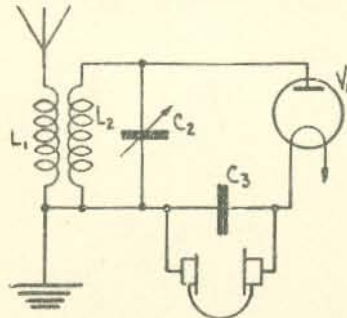
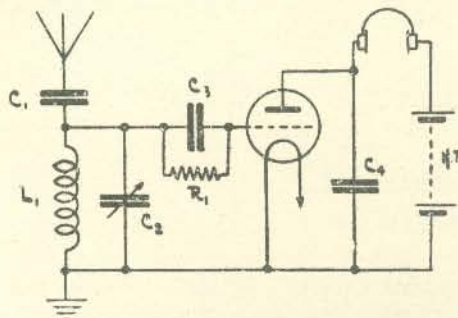

FIG. 31.—Elementary receiver for R/T or I.C.W.
FIG. 34.—Single triode receiver.
2. **Elementary Receiver for R/T and I.C.W.**—A very simple receiving circuit may be seen in fig. 31. The aerial circuit, consisting of the aerial's own inductance, capacity and resistance, is coupled by L_1 to L_2 , and the whole is tuned by C_2 . L_2 C_2 functions as a series tuned circuit, and possesses voltage magnification, so that a greater oscillatory voltage appears across C_2 than was originally picked up by the aerial. "Loose" coupling is employed between the aerial and L_2 C_2 , to reduce the "damping" imposed upon the circuit by the aerial resistance; thus selectivity is increased.
3. **Single Triode Receiver for R/T and I.C.W.** (fig. 34).—This functions in exactly the same manner as fig. 31, as regards its grid circuit (the resemblance can be noted in fig. 34A). But the A.F. voltages which appear across R_1 cause much larger A.F. currents to flow through the telephones than in the case of fig. 31, as the triode will also act as an amplifier.
4. **C.W. Reception.**—The circuit of fig. 31 is insufficient to receive C.W., because the amplitude of a C.W. signal does not vary at an audio-frequency. It is, therefore, necessary to introduce an A.F. component; this can be done by "heterodyning", which produces an A.F. component by the interaction between the C.W. signal and a second applied R.F. voltage whose frequency differs from the C.W. frequency by an audio frequency (generally about 1 kc/s). There are two types of heterodyne:—